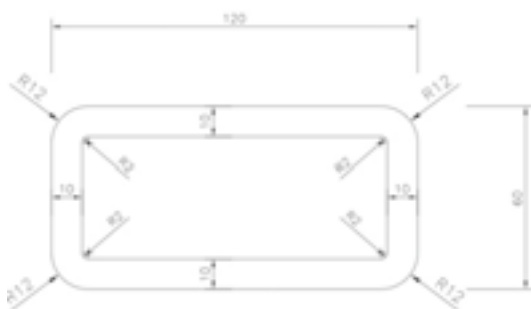

Fig. 1 Cross-section Mandrel
- A mandrel (approximate dimensions: 120x60x10 mm thickness, Fig. 1), which is pushed downwards into the weak subsoil, and afterwards pulled upwards.